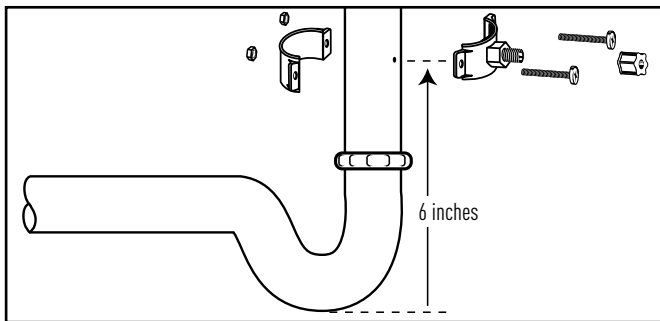

Figure 10
1. Attach the drain clamp to a vertical section of the drainpipe, about 6 inches above the trap. Make sure the opening on the drain clamp is facing towards the drinking water faucet (Figure 10).